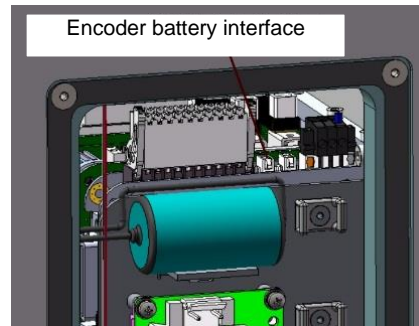

Figure 5-15 Position of encoder battery connector
Step 3 Find the interface for backup battery on the interface panel, and install a new encoder battery, as shown in Figure 5-15.